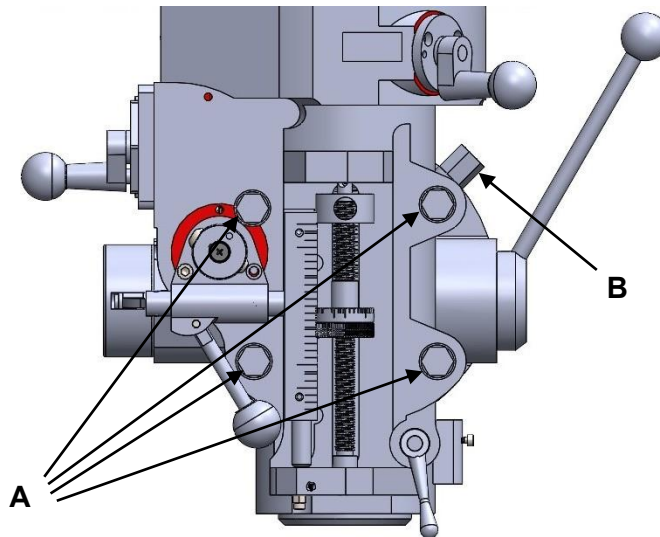

Figure 12
1. Loosen the four large hex nuts securing the mill head to the ram adapter (refer to Figure 12).
2. Turn the worm nut (B, Figure 12) to tilt the head left or right as needed. Use the scale on the ram adapter to set the desired angle accurately.